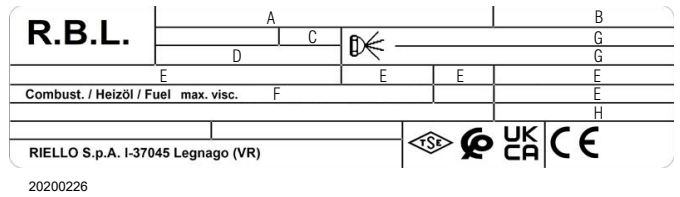

Fig. 5
Check the identification label (Fig. 5) of the burner, showing:
- the model **A** (Fig. 5) and type of burner **B**;